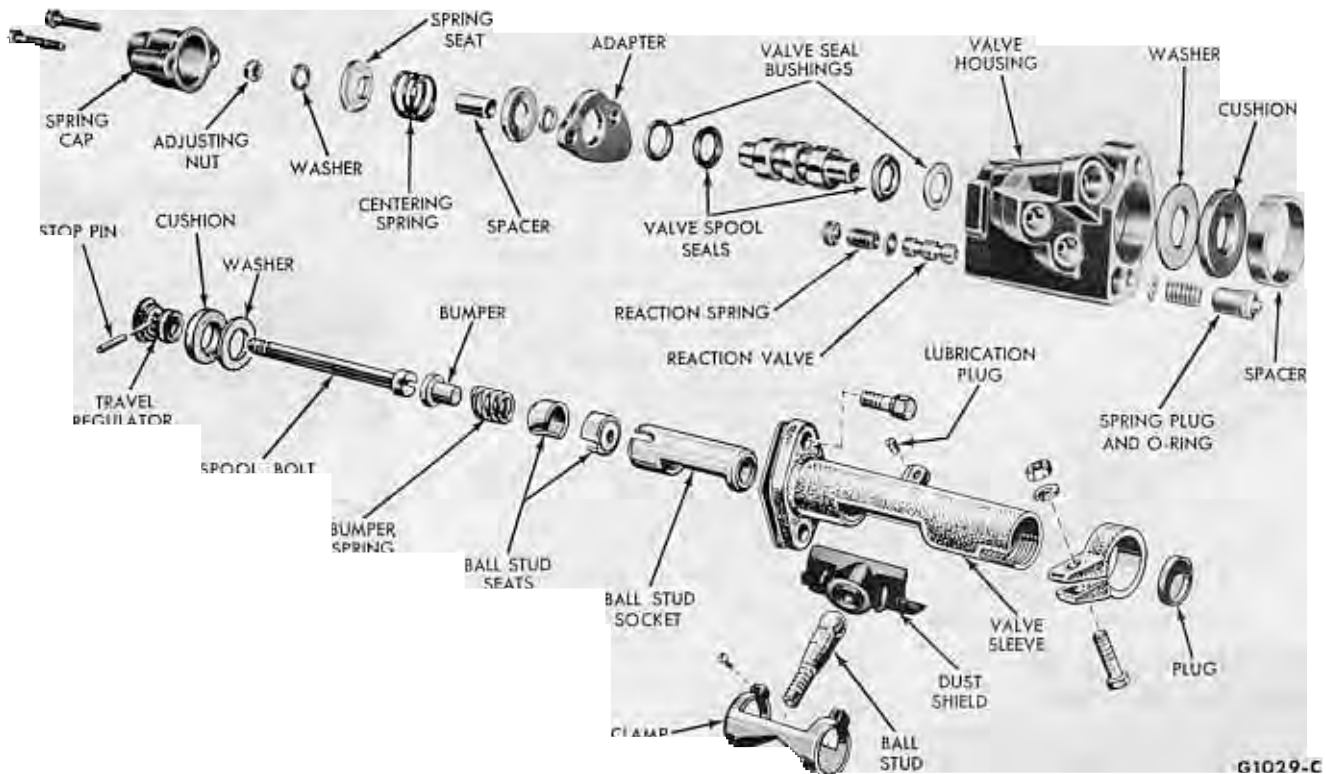

FIG. 12—Control Valve Disassembled—Typical
cap from the valve housing (Fig. 12).
5. Place the other ball stud seat, the spring, and the bumper (Fig. 12) in the socket, and install and securely tighten the travel regulator stop.